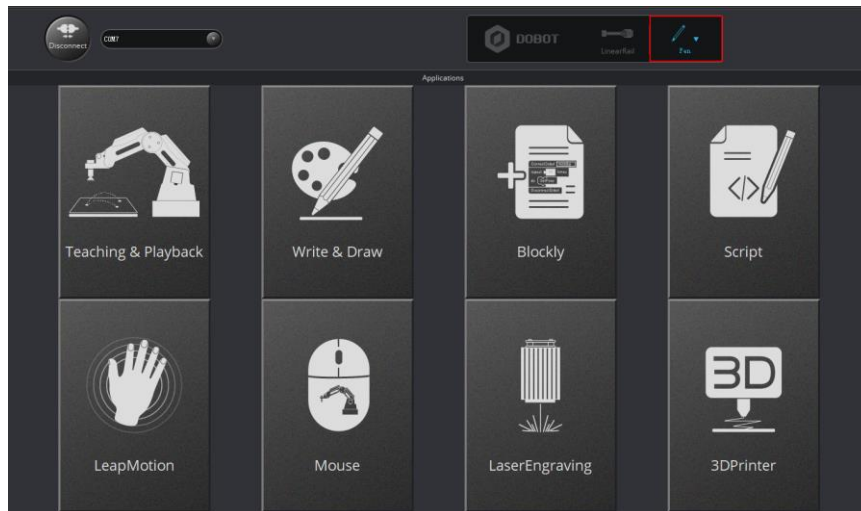

Figure 5.43 Choose Pen as the end-effector
Step 4 Choose **Pen** as the end-effector on the **Write & Draw** page, as shown in Figure 5.43.